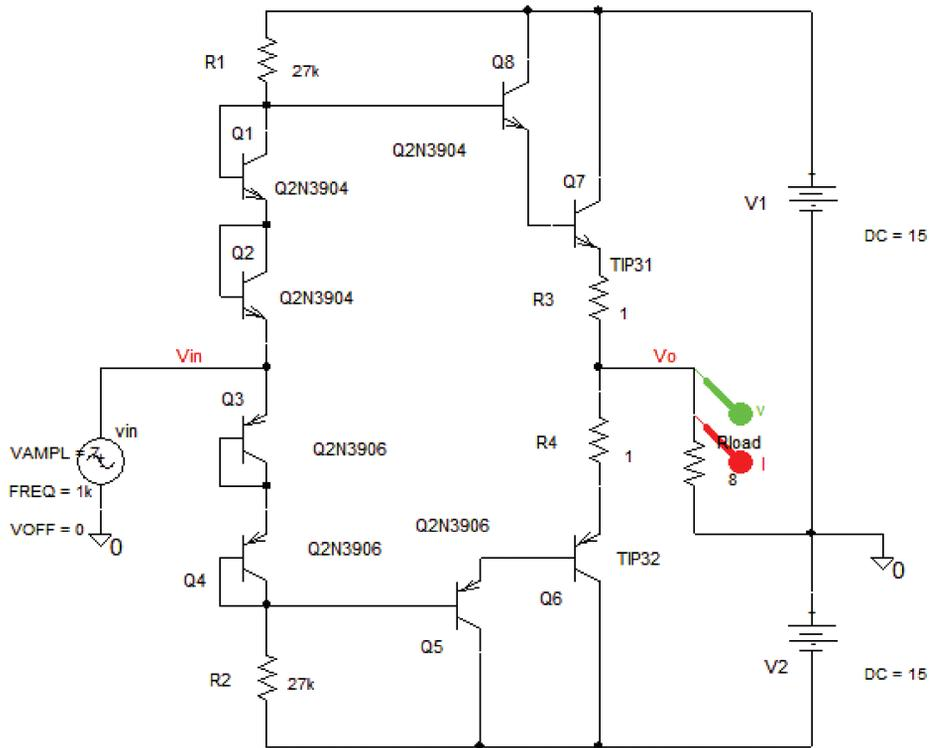

FIGURE 8.38: Improved power amplifier
- (6) To reduce crossover distortion, modify the previous circuit by adding transistors configured as diodes to achieve trickle bias as shown in Fig. 8.38 [Ref: 5 Appendix A].